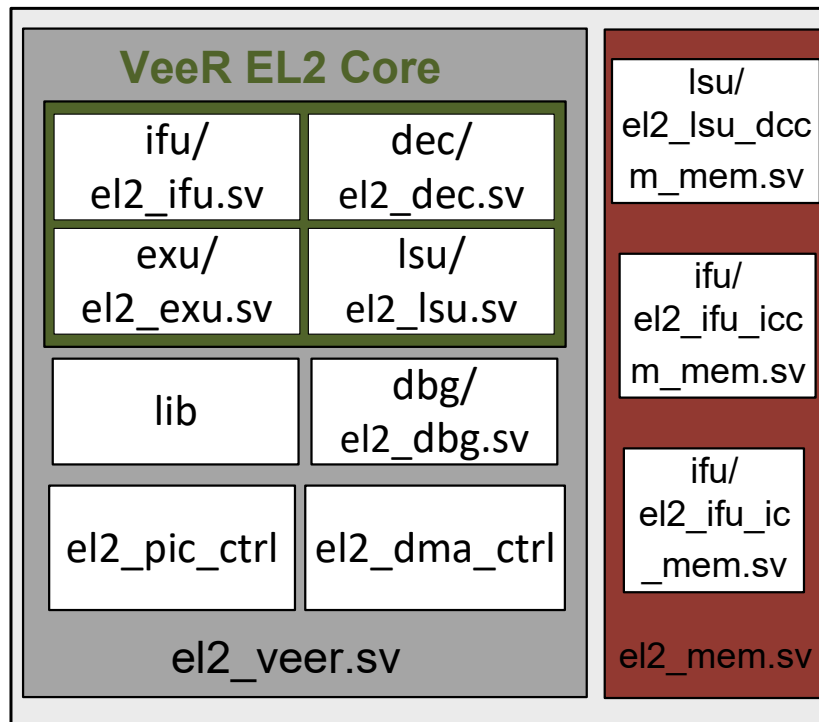

Figure 14. VeeR EL2 Core Complex
Figure 14 shows the file structure of the **VeeR EL2 Core Complex** (Figure 4). The core is organized into three main blocks: a VeeR wrapper (highlighted in grey) that includes the VeeR EL2 Core (highlighted in green) and some other elements (such as the Interrupt Controller or the Debug Unit), and the Data/Instruction memories and Instruction Cache (highlighted in red).
The top file for the VeeR EL2 Core Complex is in the file: `veer_el2_wrapper.sv`; the top module is called `veer_el2_wrapper`, and it instantiates two modules that correspond to the two blocks highlighted in grey and red in Figure 14:
The VeeR EL2 Core (highlighted in green in Figure 14) consists of the following four units:
- **veer_wrapper_dmi** (available inside *VeeR_EL2CoreComplex/veer_el2_wrapper.v*): instantiation of VeeR EL2 Core Complex, described in the previous section (Figure 14).